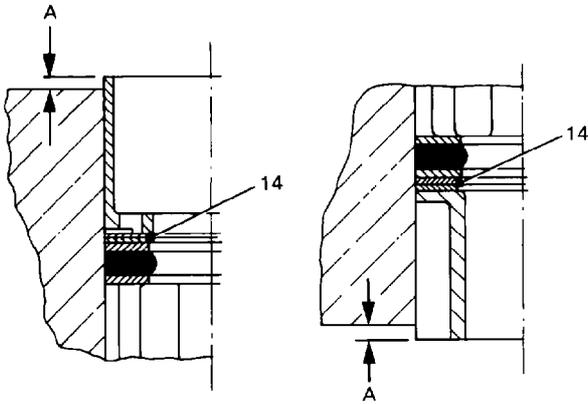

Figure 116 Dimensions — Pressurisation and Venting Valve Shims
150. **Assembly Instructions.** When assembling the valve ensure that dimension A in Fig 116 is between 0.3 mm and 0.5 mm, by inserting 0.2 mm shims (14) in the positions shown. Measure the dimension while exerting slight pressure on the guidance bushing.